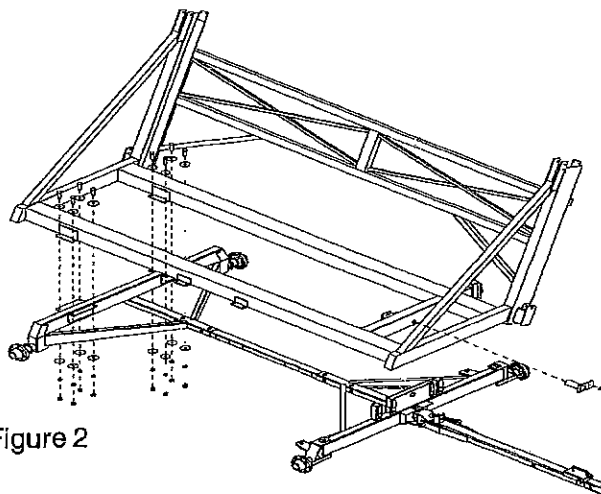

Figure 2
5. **Caution:** Carefully raise the dump box and frame assembly securely with forklifts or other suitable lifting devices and install on top of the running gear. Attach the rear with (8) 5/8" x 2-1/2" Gr5 bolts, (16) 5/8" diameter flatwashers, (8) 5/8" lockwashers and (8) 5/8" nuts. Do not tighten. Attach the front to the running gear with the pivot pin and (1) 3/8" diameter lockwasher and (1) 3/8" nut as shown in Figure 2.